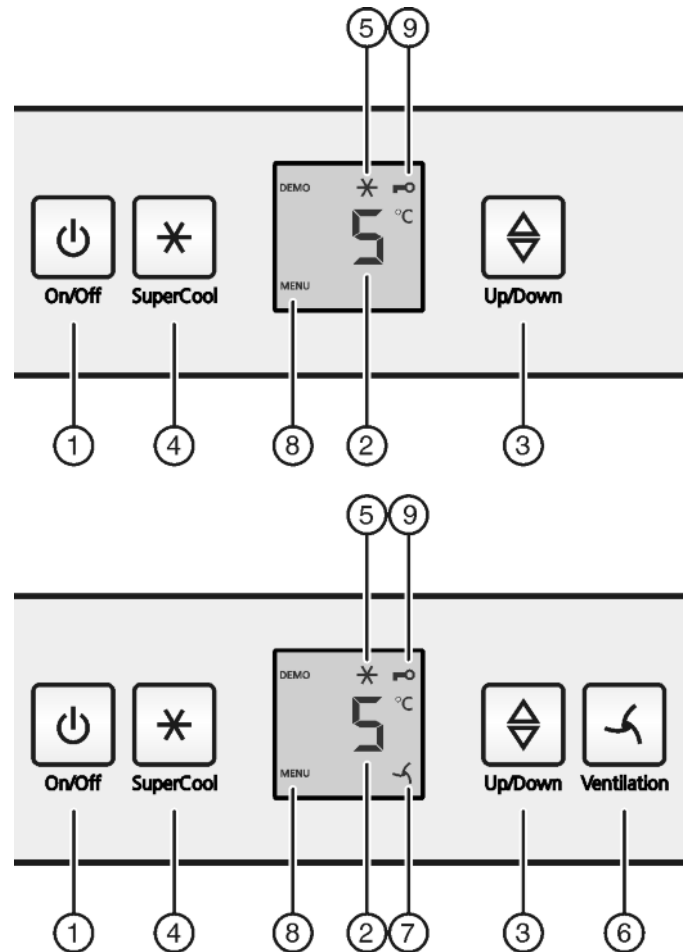

Fig. 2
- ▶ Press the On/Off button Fig. 2 (1).
- ▶ Press the SuperCool button *Fig. 2 (4)* for about 5 seconds.
- ▷ The Menu symbol is shown on the display, *Fig. 2 (8)*.
- ▶ Confirm briefly with the SuperCool button *Fig. 2 (4)*.
- ▷ The child lock symbol, *Fig. 2 (9)*, lights up on the display.
- ▶ Briefly press the On/Off button *Fig. 2 (1)*.
- ▶ Call up temperature function: press the setting button *Fig. 2 (3)*.
- ▶ Change the temperature in 1 °C steps: Press the setting button *Fig. 2 (3)* until the required temperature is indicated in the temperature display.
- ▶ Briefly press SuperCool button *Fig. 2 (4)*.
- ▷ The SuperCool symbol *Fig. 2 (5)* lights up in the display.
- ▷ The SuperCool symbol *Fig. 2 (5)* goes out in the display.
- ▶ Briefly press the fan button *Fig. 2 (6)*.
- ▷ The fan symbol *Fig. 2 (7)* shines.
- ▷ The fan symbol *Fig. 2 (7)* goes out.